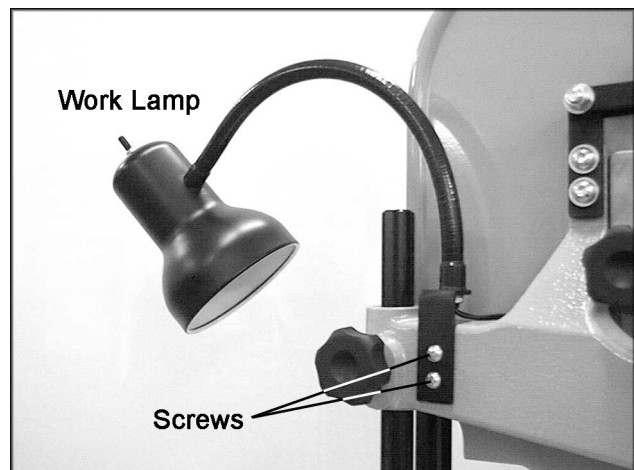

Fig. 11
22. Mount the work lamp to the saw body with two M5 x 8 pan head screws (Fig. 11). The work lamp uses a medium base light bulb (not provided) which should be 60 watts or less.